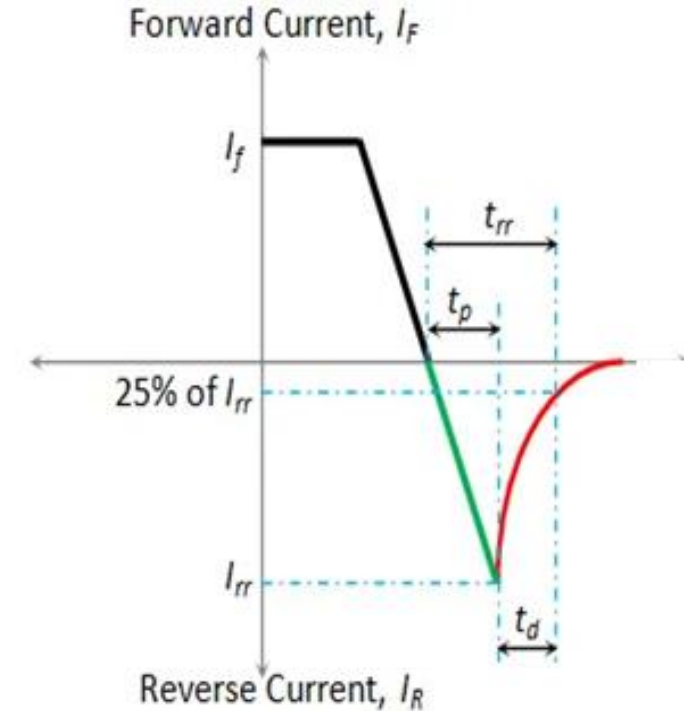

Figure 1 Reverse Recovery Characteristics of the Diode
- During this reverse recovery time of the diode, one can see that there will be fairly large amount of current flowing through the diode, but in the opposite direction (I_{rr} in Figure 1).